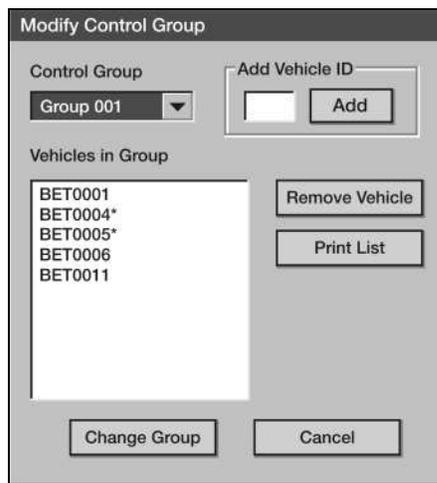

Figure 3-106. Modify Control Groups Dialog Box
- (2) Select the control group to be modified (see Figure 3-106). From here, select their modification needed (for example, add vehicle or remove vehicle).